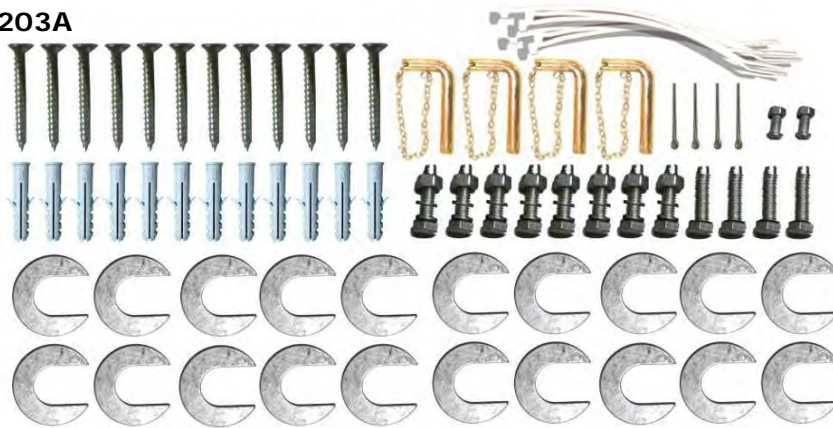

Fig. 17
4.1 Parts bag for lift of on surface installation (See Fig.17, Fig.18)